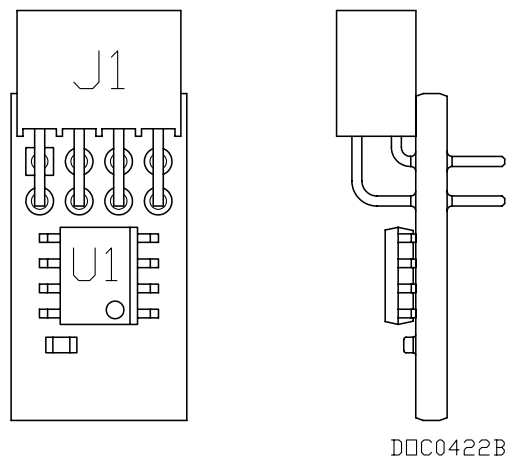

Figure 2-8. License Key
7. Press the license key into the terminal until it is firmly seated. Refer to Figure 2-8.